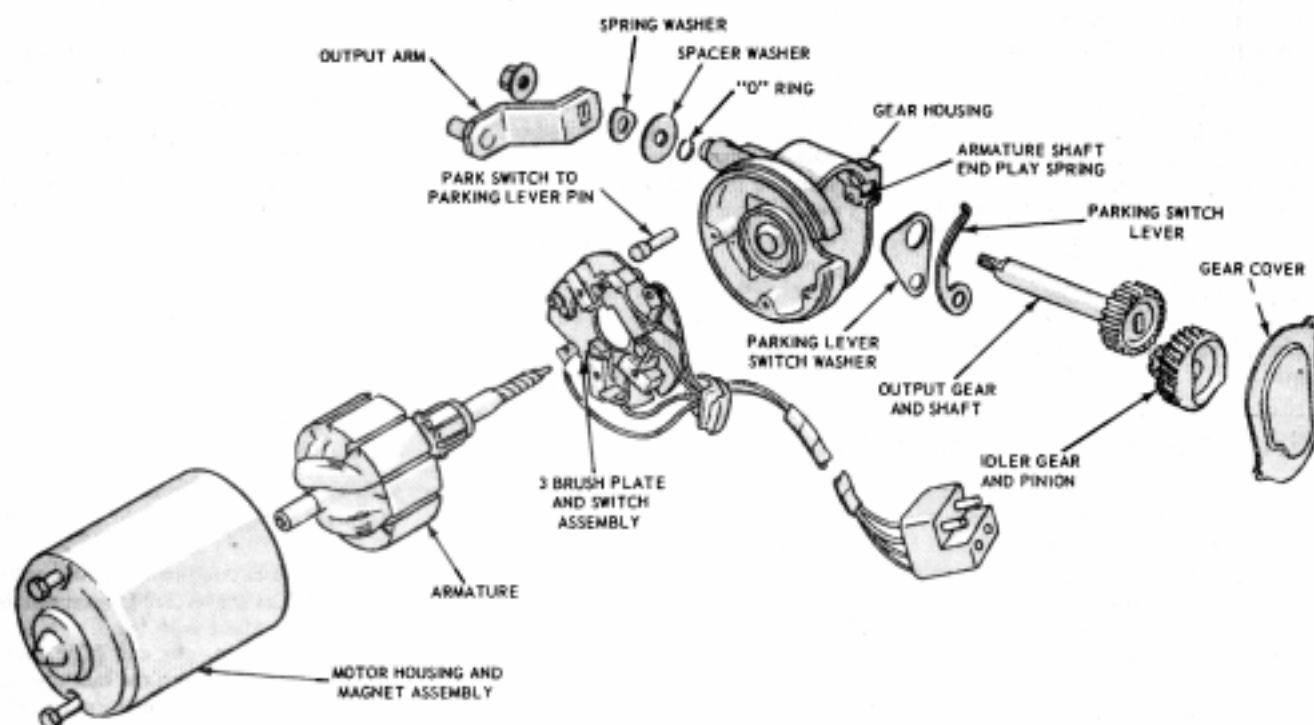

FIG. 20 Disassembled Wiper Motor
1. Remove the gear cover retaining screws, ground terminal and cover (Fig. 20).